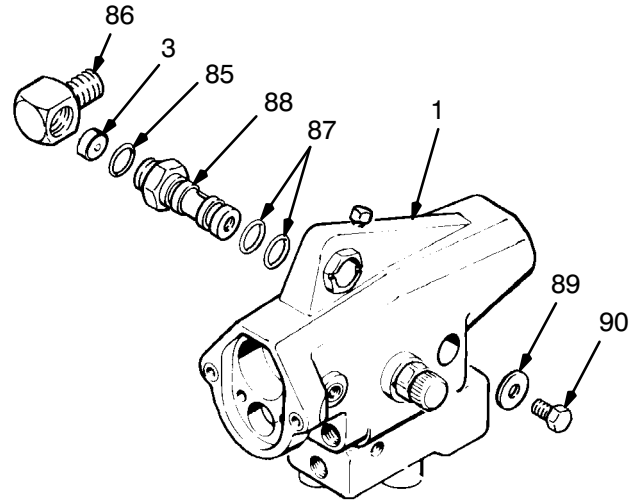

Fig 22
1. Unscrew the turbine air line from the adapter (86). See Fig 22.
2. Remove the cap screw (90) and washer (89) from the gun body (1).
3. Pull the adapter (86), with the air valve (88), out of the gun body.
4. Unscrew the adapter (86) from the air valve (88), and remove the disk regulator (3).
6. Clean and inspect the two o-rings (87) and one o-ring (85) on the air valve. Replace if necessary. Lubricate the o-rings with petroleum jelly.
7. Install the disc regulator (3) into the air valve (88) so its beveled surface faces into the gun.
8. Screw the adapter (86) into the air valve (88), and install the air valve into the gun body (1).
9. Screw the cap screw (90), with the washer (89), into the gun body (1).
10. Screw the turbine air line onto the adapter (67).